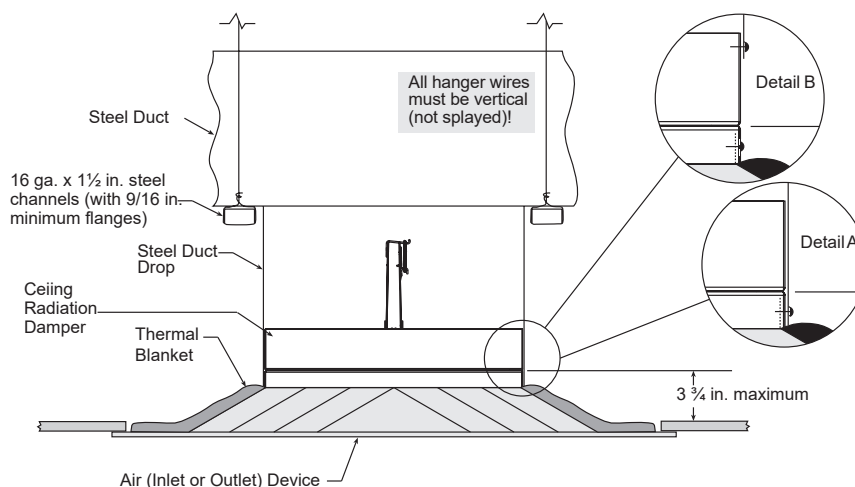

Figure 6
1. Ceiling radiation damper and air device neck may be connected directly to the duct drop (see **Detail A, Figure 6**).
2. Ceiling radiation damper may be connected directly to the air device neck and then the duct drop connected to the damper (see **Detail B, Figure 6**).
Models CRD-1, CRD-1LP, CRD-2, and CRD-60 may be installed as shown in **Figure 6** (Model CRD-1 and CRD-1LP illustrated).